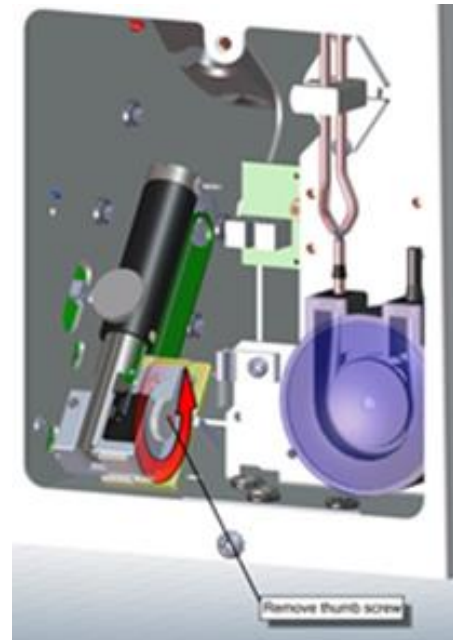

Figure 5
5. Remove black Thumb Screw from Probe tube as shown above in Figure 5.